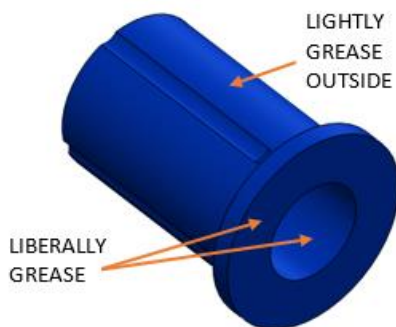

Figure 2: Diagram of bush greasing
- Lightly grease outer bore of bushes (figure 2) and fit into the front leaf spring eyes;
- Liberally grease the inside and the ends of the bushes (figure 2) and the shank of the fixed pins;
- Very lightly grease outer bore of bushes (figure 2) and fit into the leaf spring eyes and vehicle chassis;
- Grease the inside and the ends of the bushes (figure 2) and the surfaces of the shackle pins;